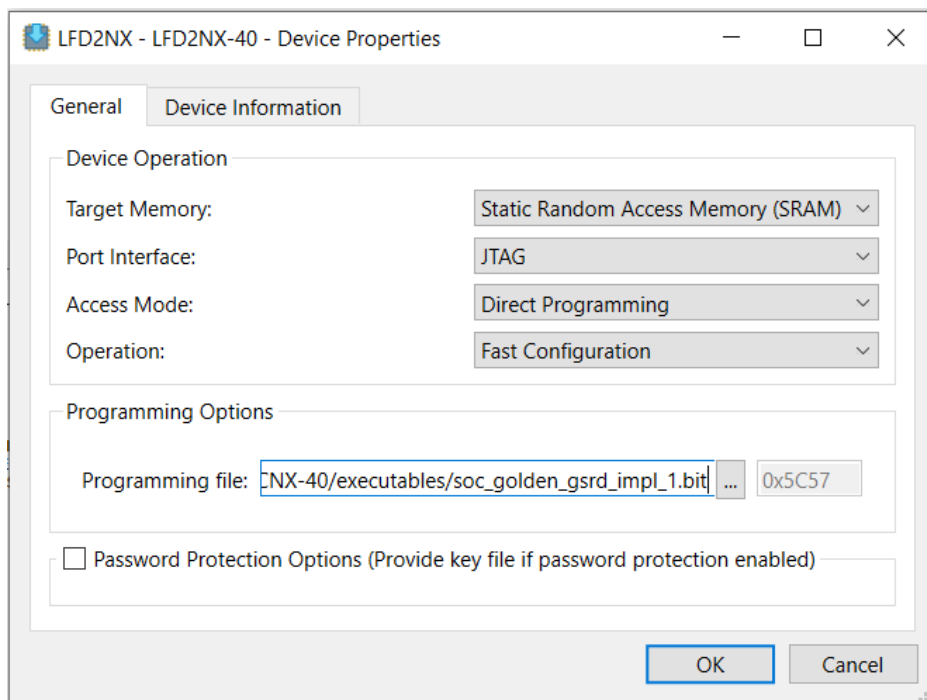

Figure 6.19. Device Properties to Program the FPGA Bitstream in SRAM
16. To program the FPGA Golden GSRD bitstream, double-click on the **Operation** tab to update the selections as shown in Figure 6.19. Make sure to provide the path to the .bit file location on your local machine where you have unzipped the executables.